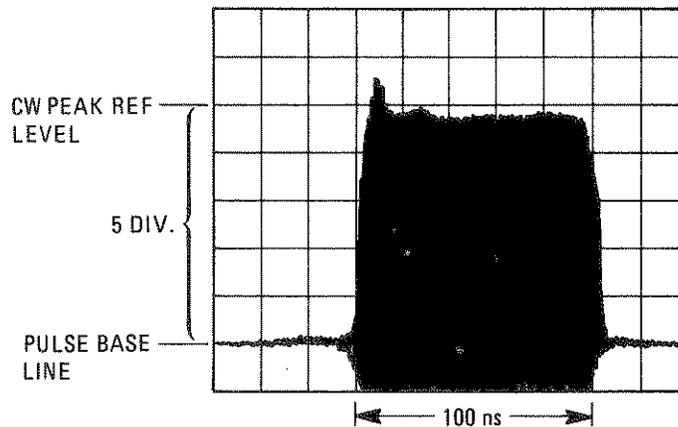

Figure 4-31. Pulse Peak Level Accuracy Measurement
8. Adjust the oscilloscope's vertical sensitivity controls to place the peak of the CW signal on the fifth graticule above the pulse base line (refer to Figure 4-31). The peak of the CW signal is now the CW peak reference level.
9. Switch the Signal Generator to PULSE NORM. Without adjusting the oscilloscope's vertical sensitivity controls, measure the difference between the CW peak reference level and the average peak pulse level excluding any overshoot. See Figure 4-31.